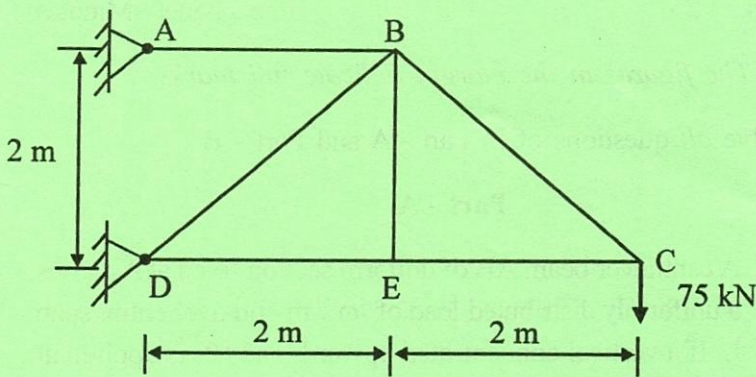

Fig. QB1
- B1. Using the Virtual work method, calculate horizontal or vertical deflection of joint C of the truss shown in Fig QB1. The cross sectional areas of all the members are of 1500 sq. mm. $E = 200$ GPa. 5 [CO4]